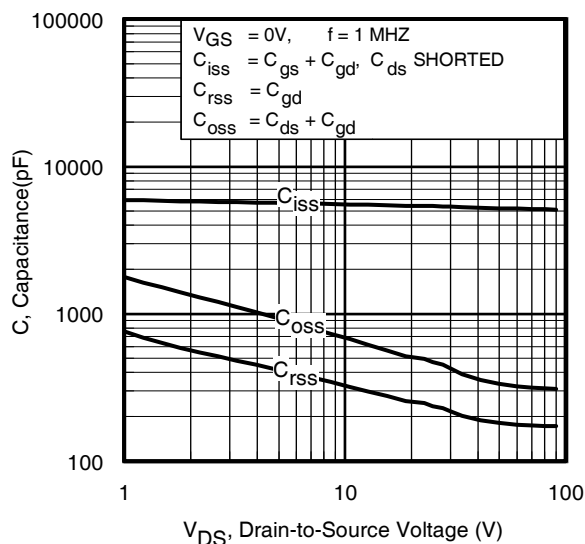

Fig 5. Typical Capacitance vs. Drain-to-Source Voltage
| $C_{oss \text{ eff. (TR)}}$ | Effective Output Capacitance (Time Related)⑥  | —    | 500  | —    |       | $V_{GS} = 0V, V_{DS} = 0V \text{ to } 80V$ ⑥, See Fig. 5  |